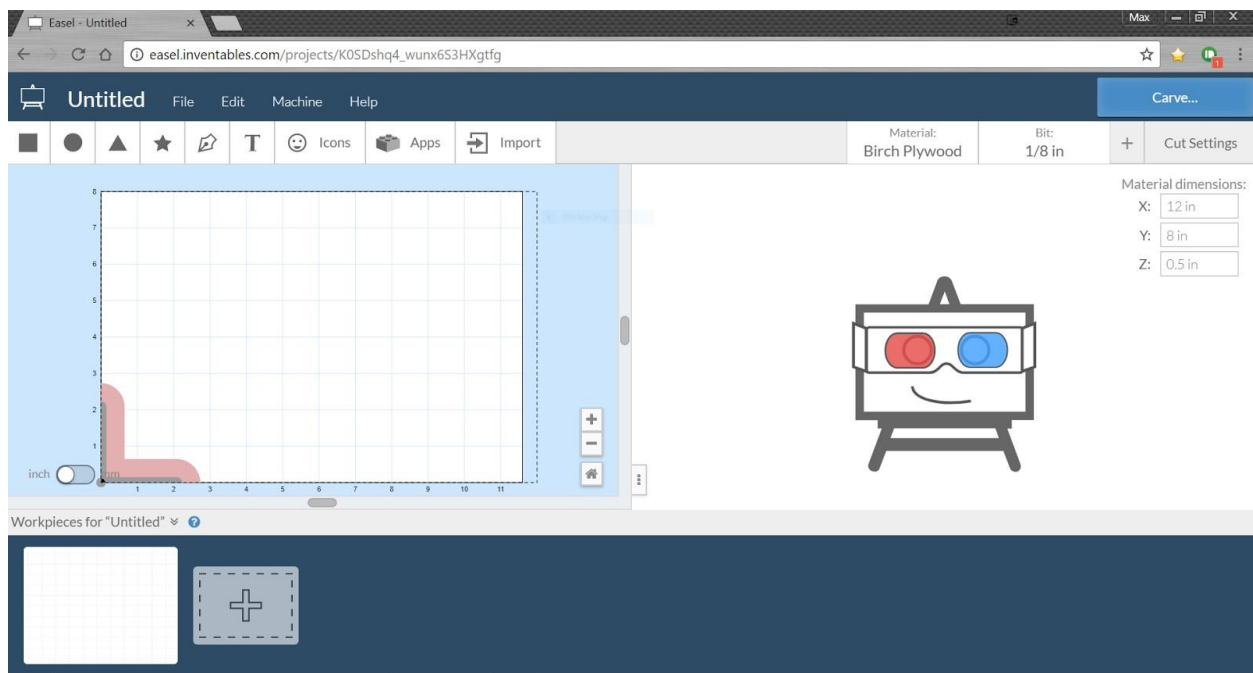

Figure 6 - Easel Interface
1. On the computer use a browser to go to <https://www.inventables.com/sessions/new> Create an account if you don't have one. Create a new Document. The Easel Design Interface uses a left hand screen for editing designs and a right hand screen for showing a preview of your job (Figure 6)